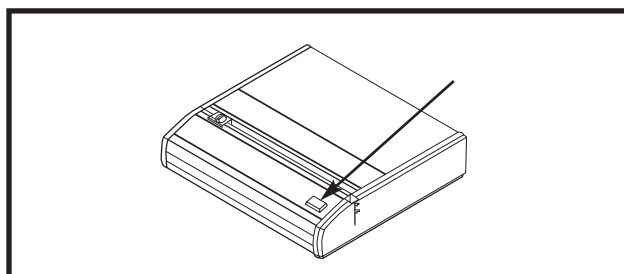

Figure 4
- To punch, press the PUNCH \* button (See Figure 4) or the FOOT PEDAL. The Model 2000 punches up to the following sheet capacity of 20-lb./80 gram paper at once. When punching other materials, lower the sheet counts. Punch only TWO clear covers at a time to prevent jams and excessive wear.